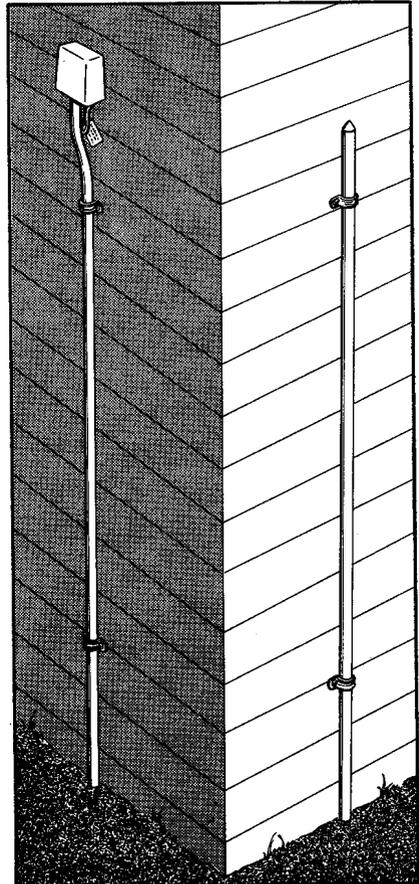

FIGURE 1. House and Building Riser Typical Installations
1.01 This practice provides procedures for protecting aluminum shielded buried service wire on buildings before it enters the protector or building. See Figure 1.